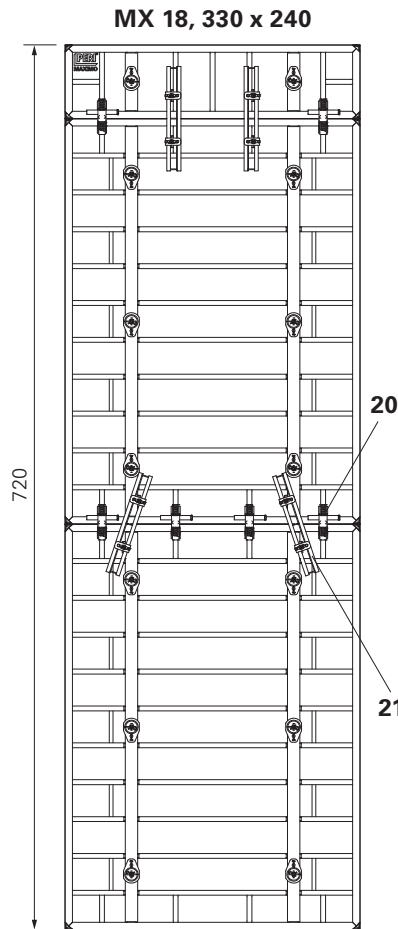

Fig. C8.03a
For extension units  $H > 6.00$  m and  $H \leq 7.20$  m, Alignment Couplers BFD (20) and Compensation Walers MAR 85 (21) are to be used on panel joints. (Fig. C8.03a + C8.03b)